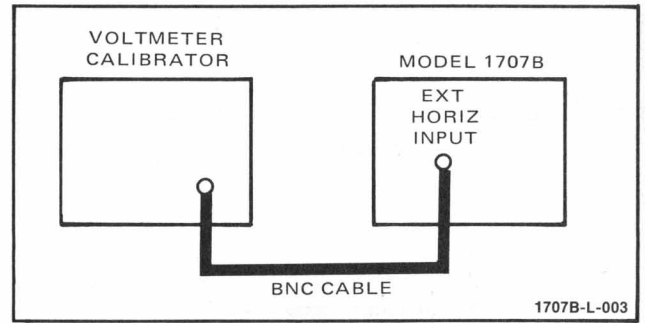

Figure 5-17. Ext Horizontal Deflection Factor Test Setup
- a. Set instruments up as shown in figure 5-17.